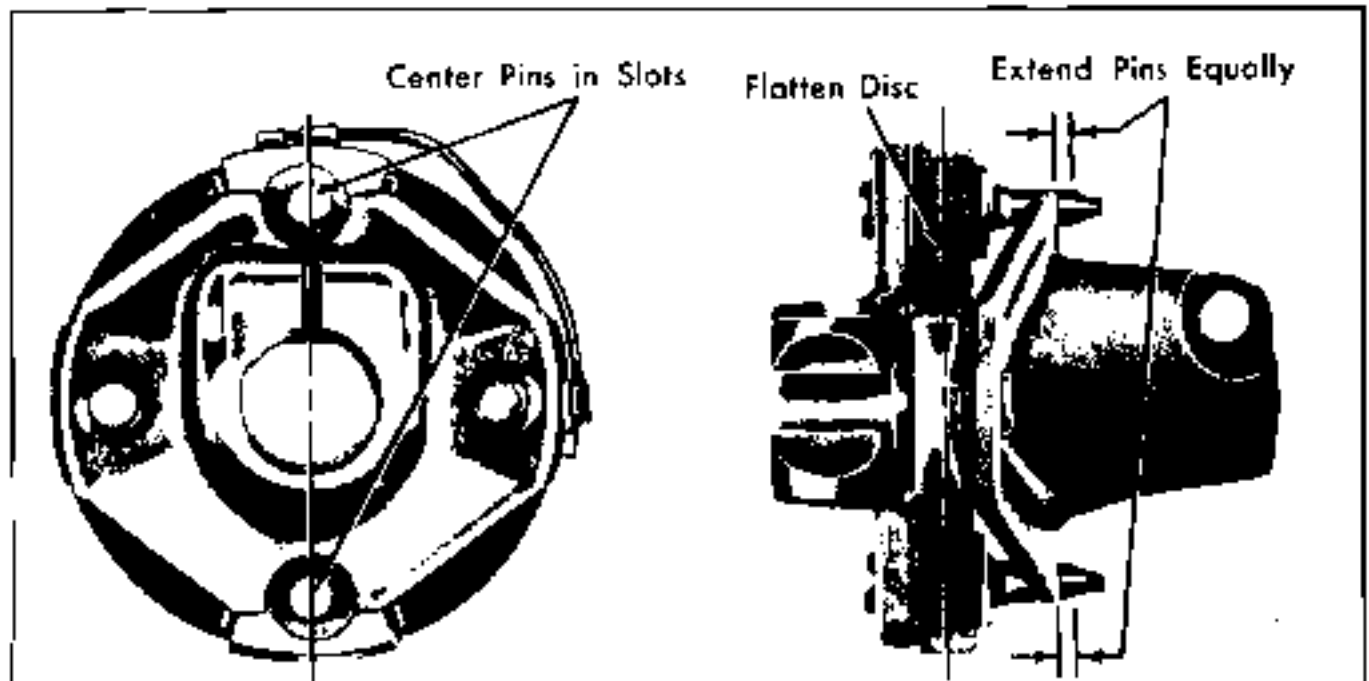

Fig. 9-12 Installing Steering Shaft To Flexible Coupling
2. Attach steering shaft flange to steering gear flexible coupling and torque attaching nuts to 20 lb. ft. (Fig. 9-12).